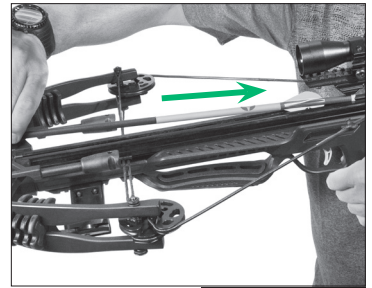

FIGURE 14
- 4d Place the arrow so that the cocking vane/fletching (the odd colored vane/fletching), is down in the flight groove. (Fig. 14)